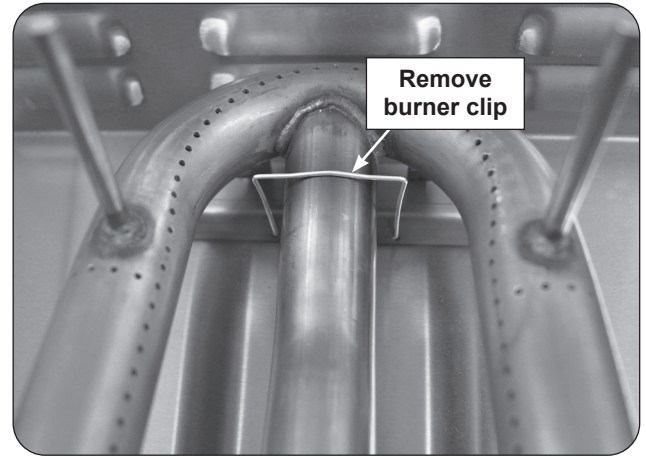

Fig. 40-1 Main burner removal
3. Locate the burner clip (located over the rear center tube of the burner) and slightly pinch and remove the clip from the burner support. See Fig. 40-1.